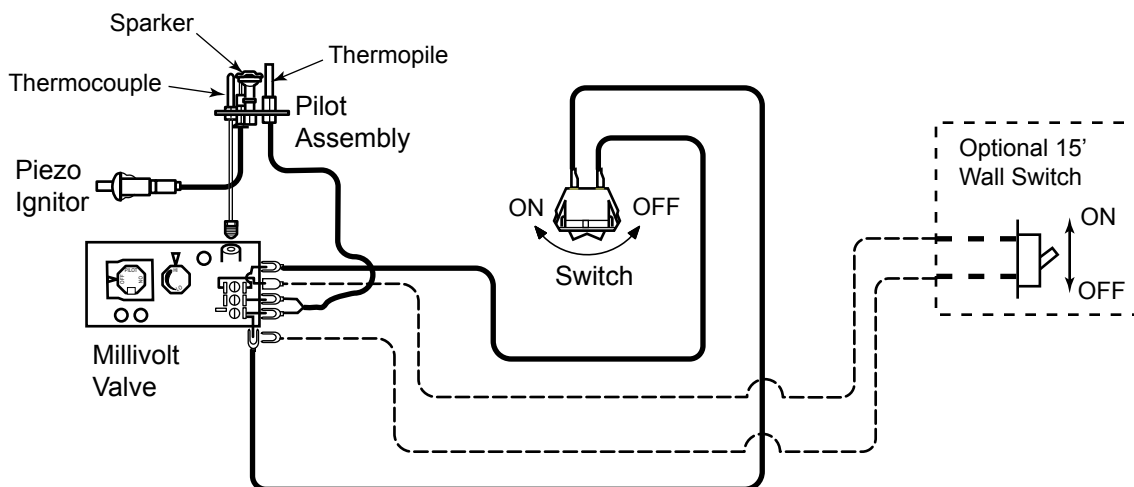

Figure 30 - Wiring Diagram for Wall Switch
A remote wall switch and up to fifteen (15) feet of 18 Ga. wire may be used with this appliance. Attach the wall switch in a junction box at the desired location on the wall. *Figure 30*. Do not extend beyond the wall switch wire length provided.